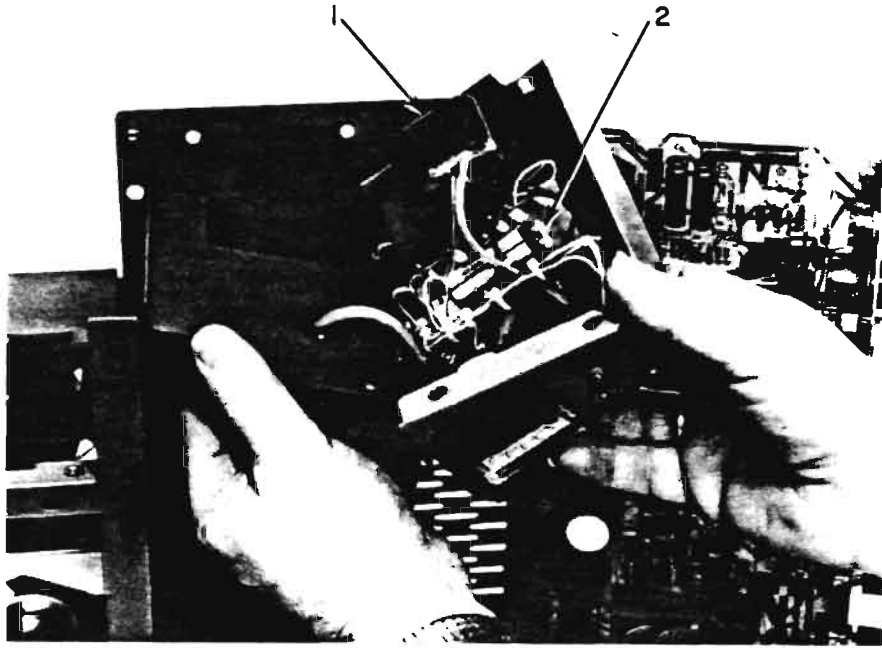

Fig. 8-4. High-Voltage Enclosure
**HIGH-VOLTAGE ENCLOSURE (Fig. 8-4)**